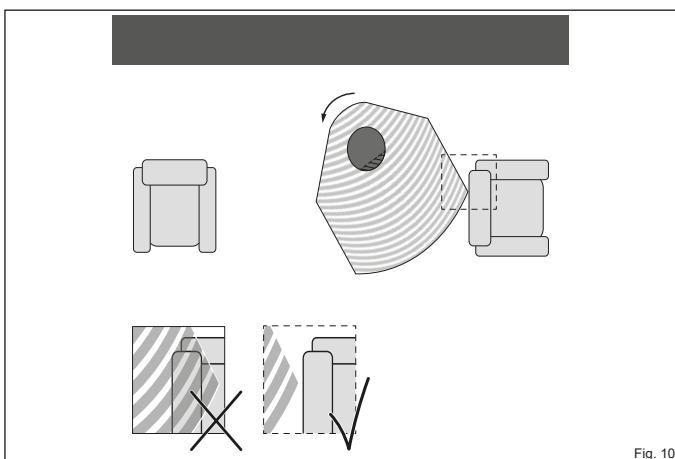

Fig. 10
- ▶ Flammable materials, e.g. furniture, must not be located within the radiation range of the stove at the set radiation area (Fig. 10 and Fig. 11).